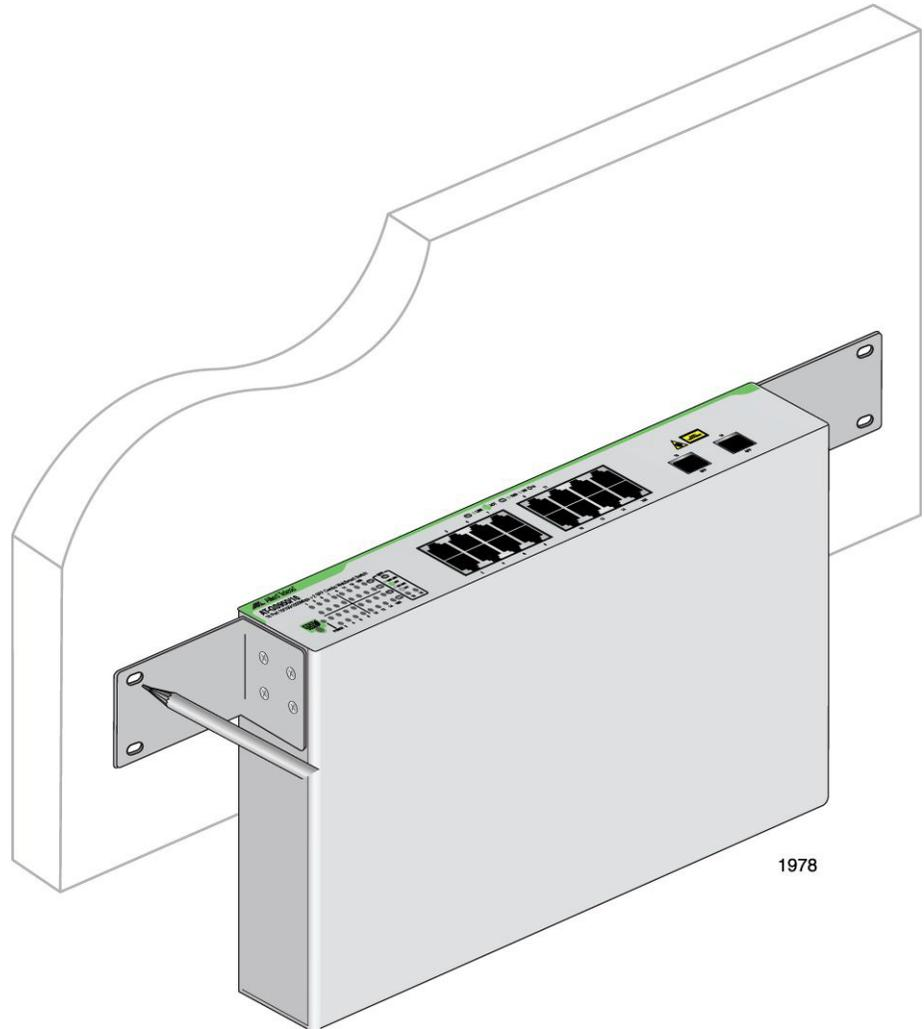

Figure 24. Marking the Screw Hole Locations
4. Have another person hold the switch at the wall location where the switch is to be installed, while you use a pencil or pen to mark the wall with the locations of the four holes in the brackets. The switch should be oriented such that its front faceplate is facing up and is level to the floor. See Figure 24.